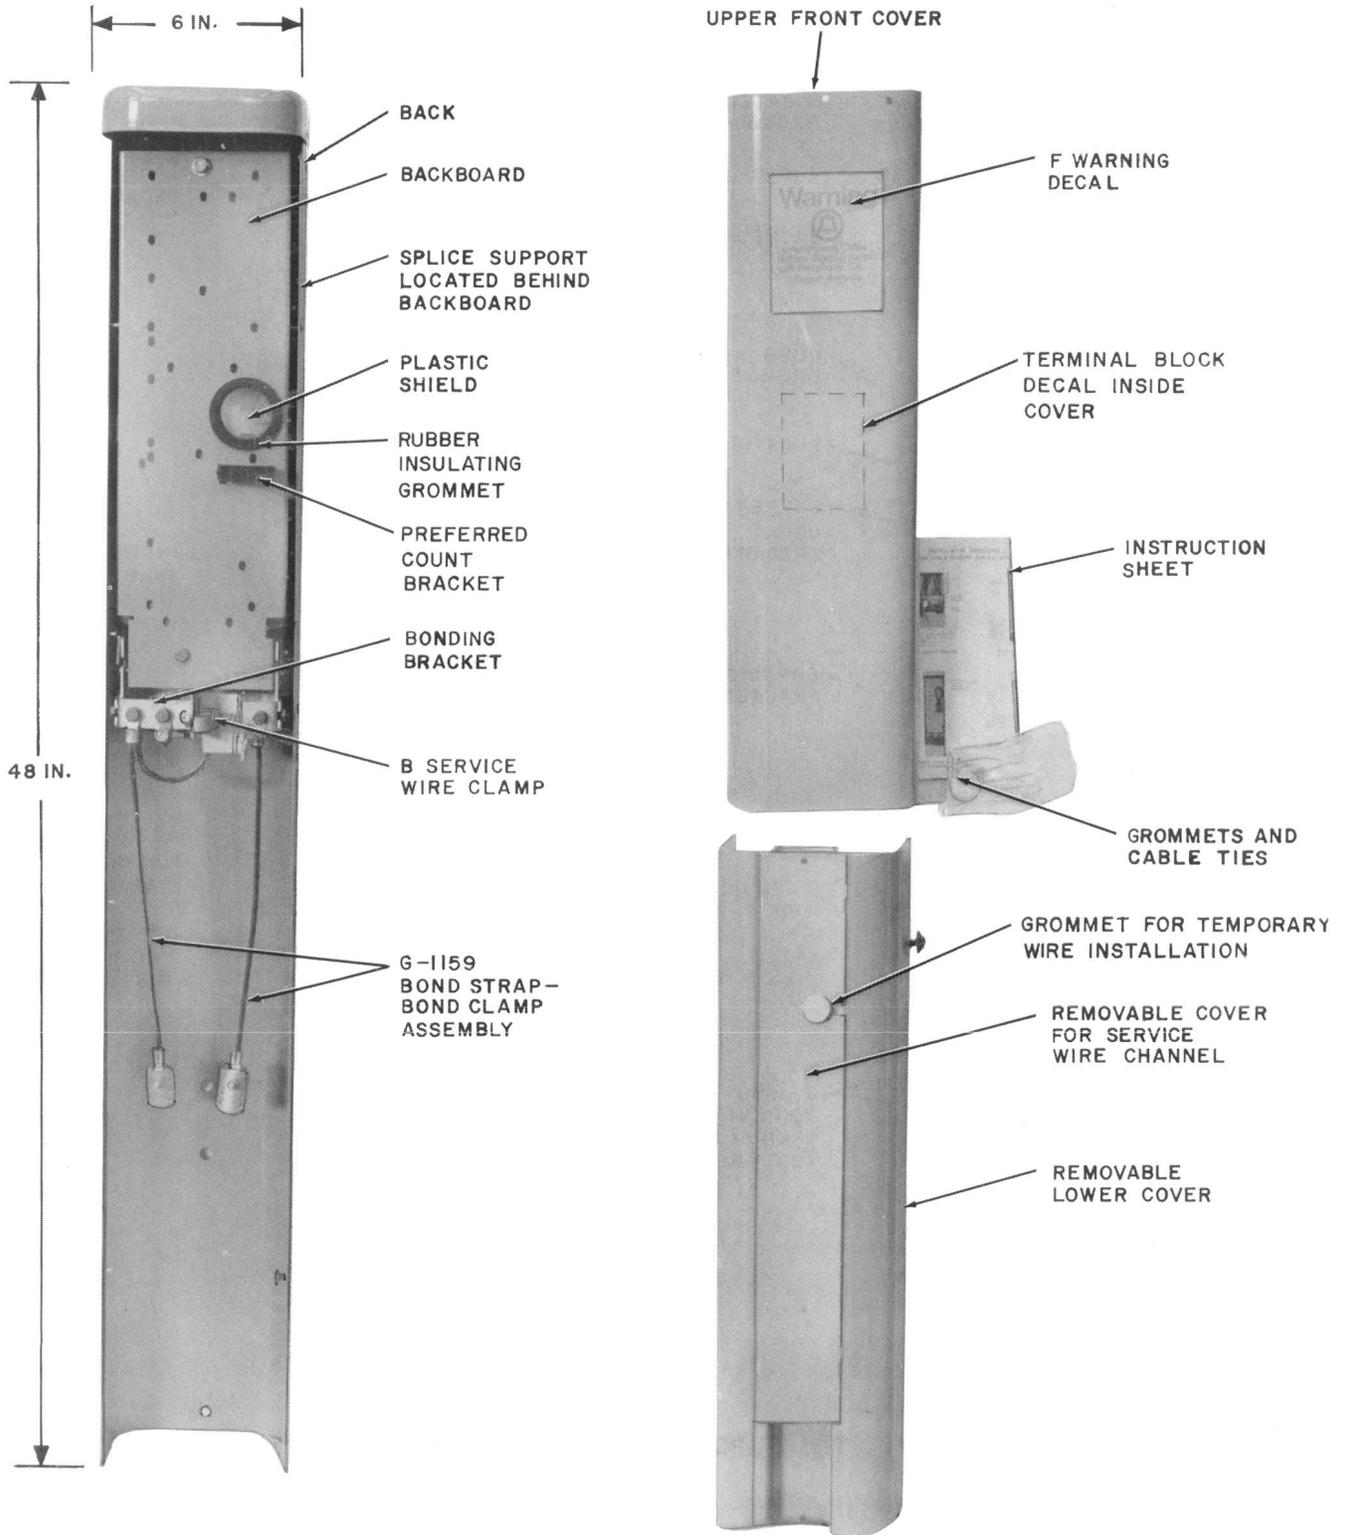
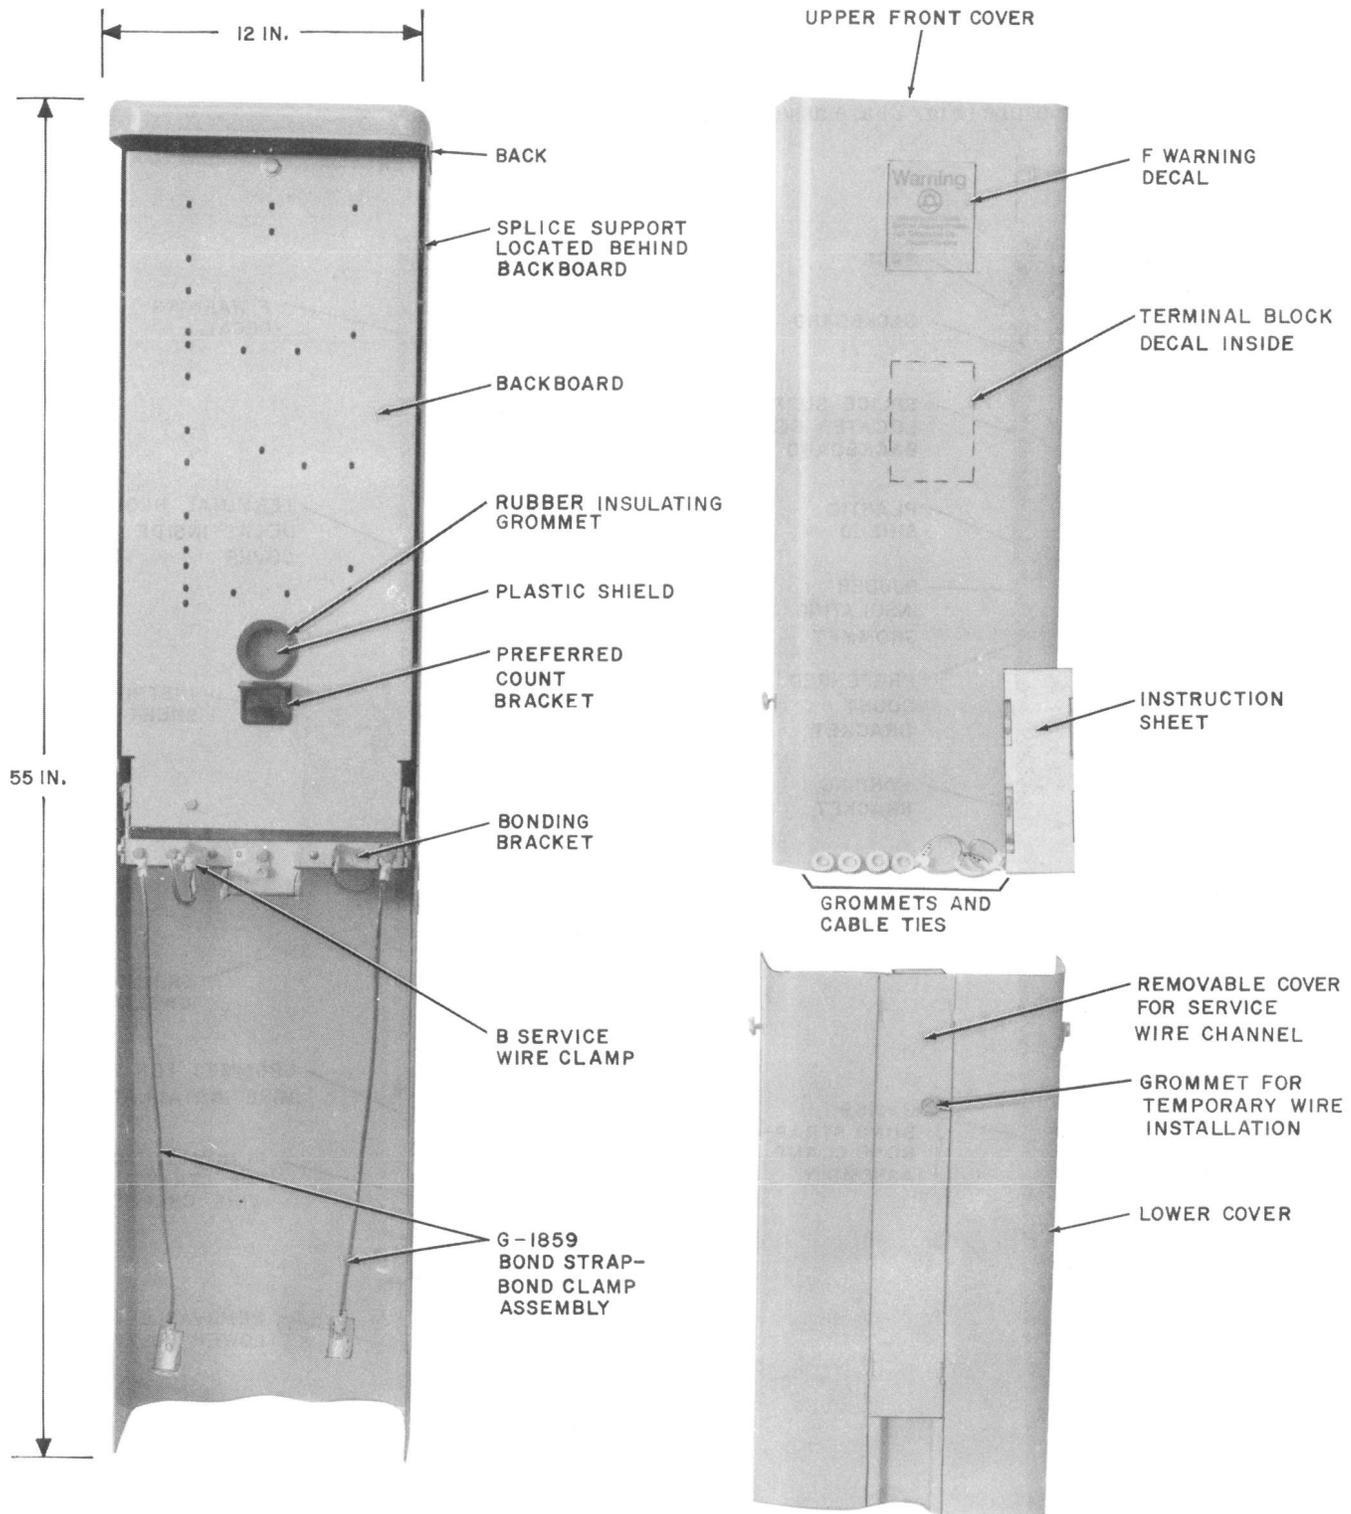

Fig. 1—PC6/48 Cable Closure
Fig. 2—PC12/55 Cable Closure
2.01 The PC6/48 cable closure (Fig. 1) and the PC12/55 cable closure (Fig. 2) are assemblies
of steel parts consisting of components shown in Fig. 1 and 2.